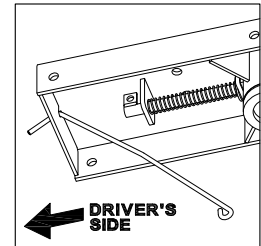

FIGURE E1: Center Section
1. Install the handle from underneath the truck by inserting it through the slot in the end of the center section toward the driver's side rear tire as shown, See Figure E1.